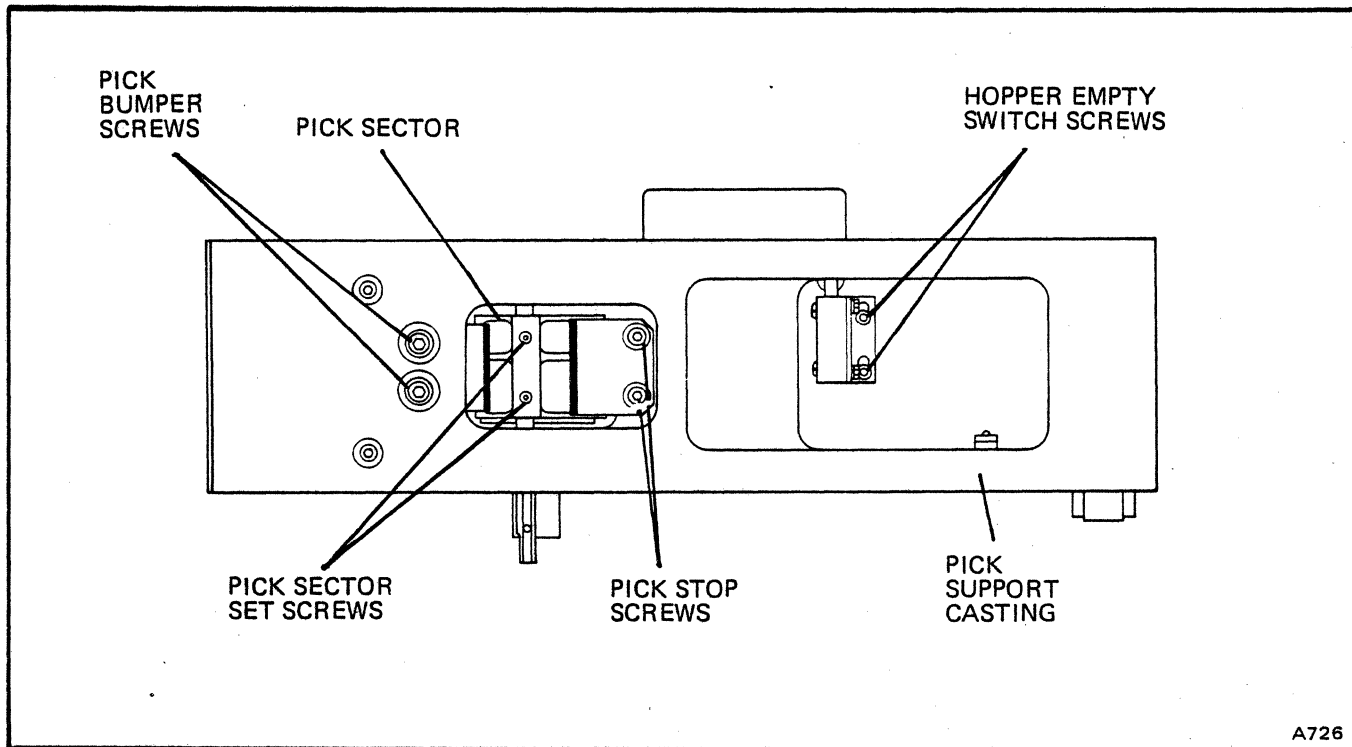

Figure 4-33. Pick Support Assembly, Front View
- l. Hold sector in place and tighten set screws (Figure 4-33).
- b. If height of pick sector requires adjustment, loosen set screws in front of pick sector (Figure 4-33).
- j. Loosen two pick stop screws (Figure 4-33).
- w. Loosen two pick bumper screws (Figure 4-33).